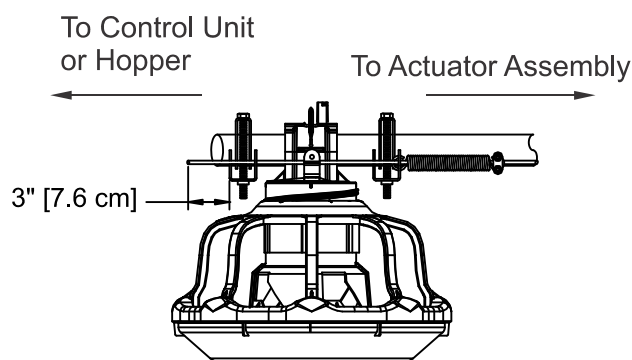

Figure 63. Trim excess actuator wire at control/hopper
5. With the actuator in the open position and the brood gate open tighten the 10-24 screw for each pan. With the brood in the open position. Go to the control unit or hopper end to trim the extra actuator wire. Leave **3 inches [7.6 cm]** of excess wire past the spring bracket, **see figure 63.**